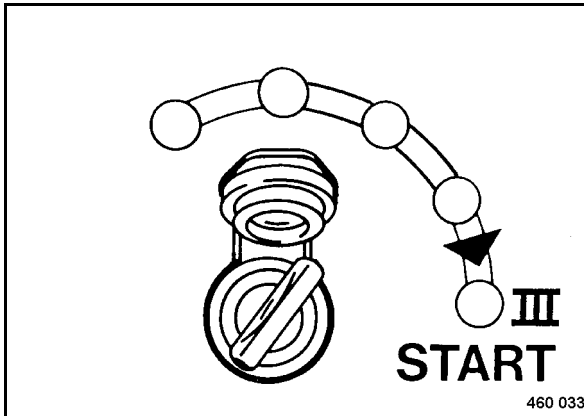

Fig. 46
- Once the preheating control light has gone out turn the ignition key to position "III" (Fig. 46), the starter will crank the engine.